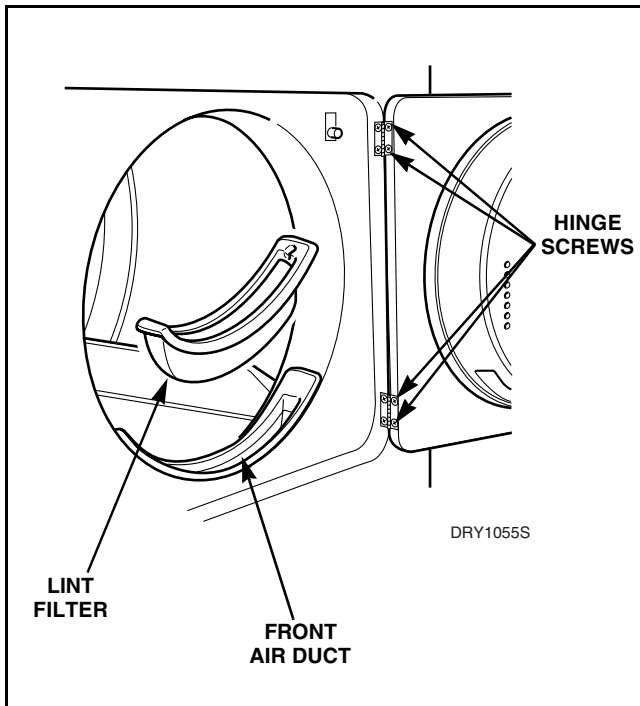

Figure 10
Refer to *Figure 10*
Remove four screws holding hinges to door. Refer to *Figure 10*.
- Remove four screws holding hinges to door. Refer to *Figure 10*.